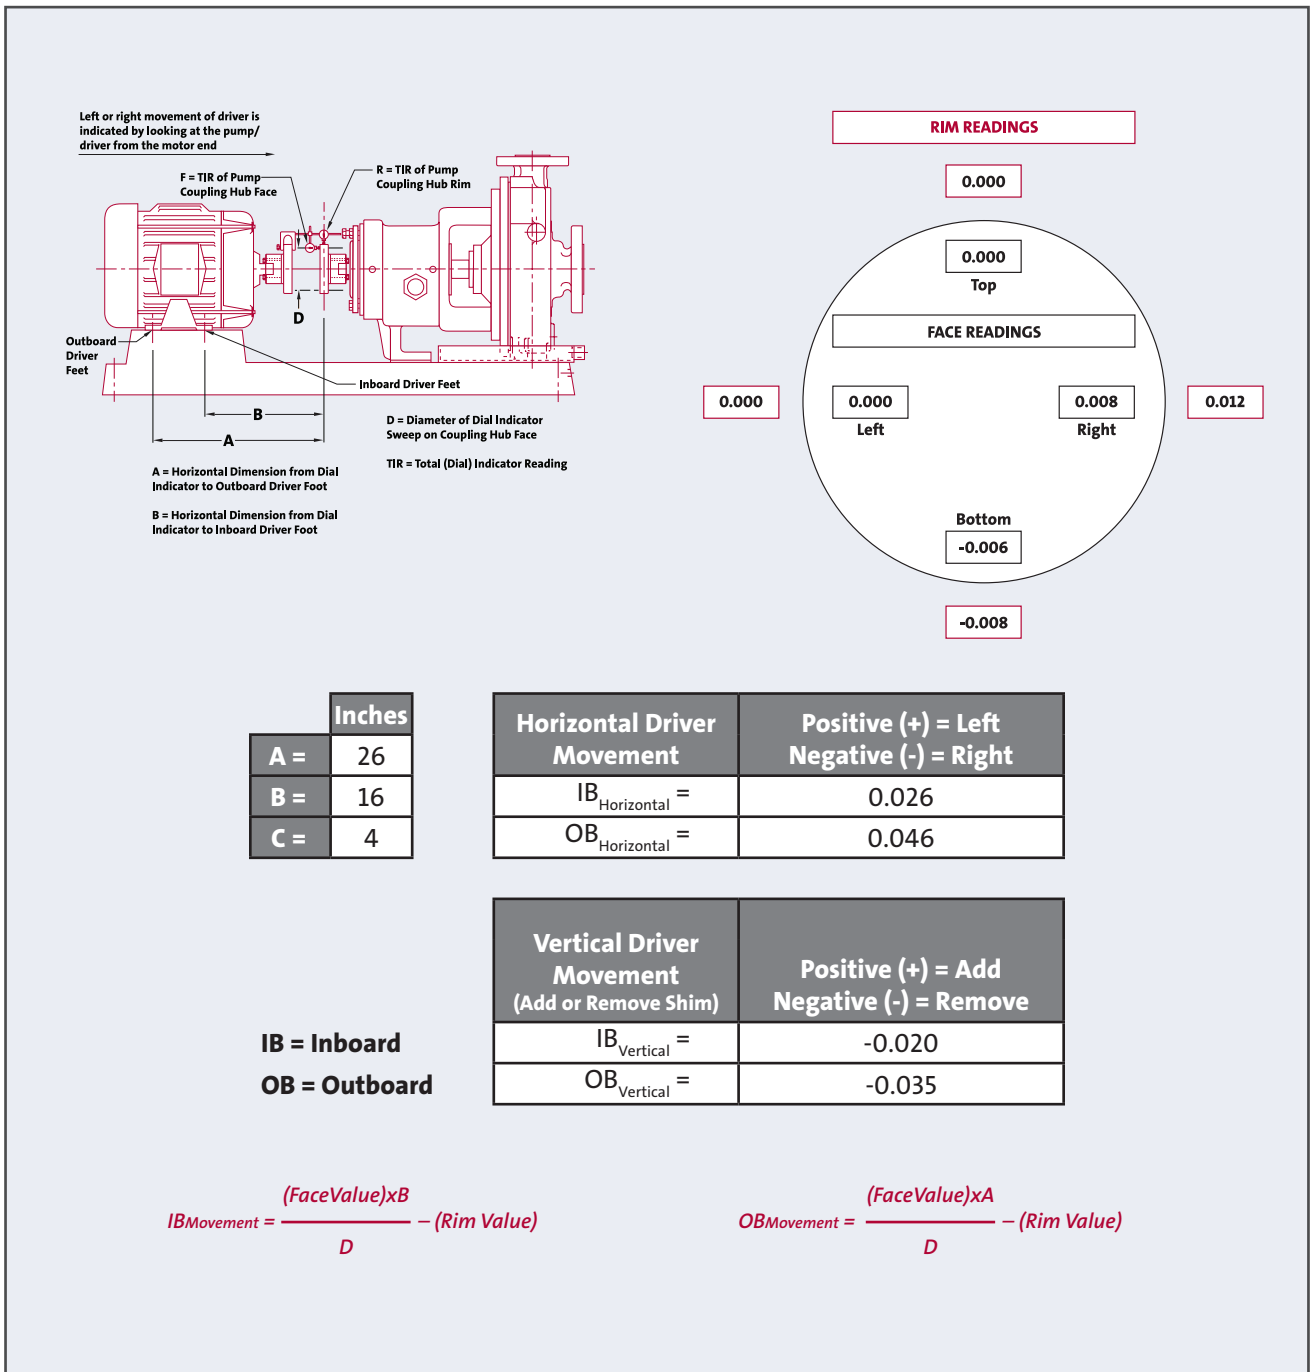

Figure 13. Rim and Face Alignment Worksheet
- c. “Zero” the rim and the face dial indicators to 0.000” at the 9 o’clock position of the couplings, as viewed from the motor end. Reference the dial indicator diagram in *Figure 13*.
- b. “Zero” the rim and the face dial indicators to 0.000” at the 12 o’clock position of the couplings, as viewed from the motor end. Reference the dial indicator diagram in *Figure 13*.